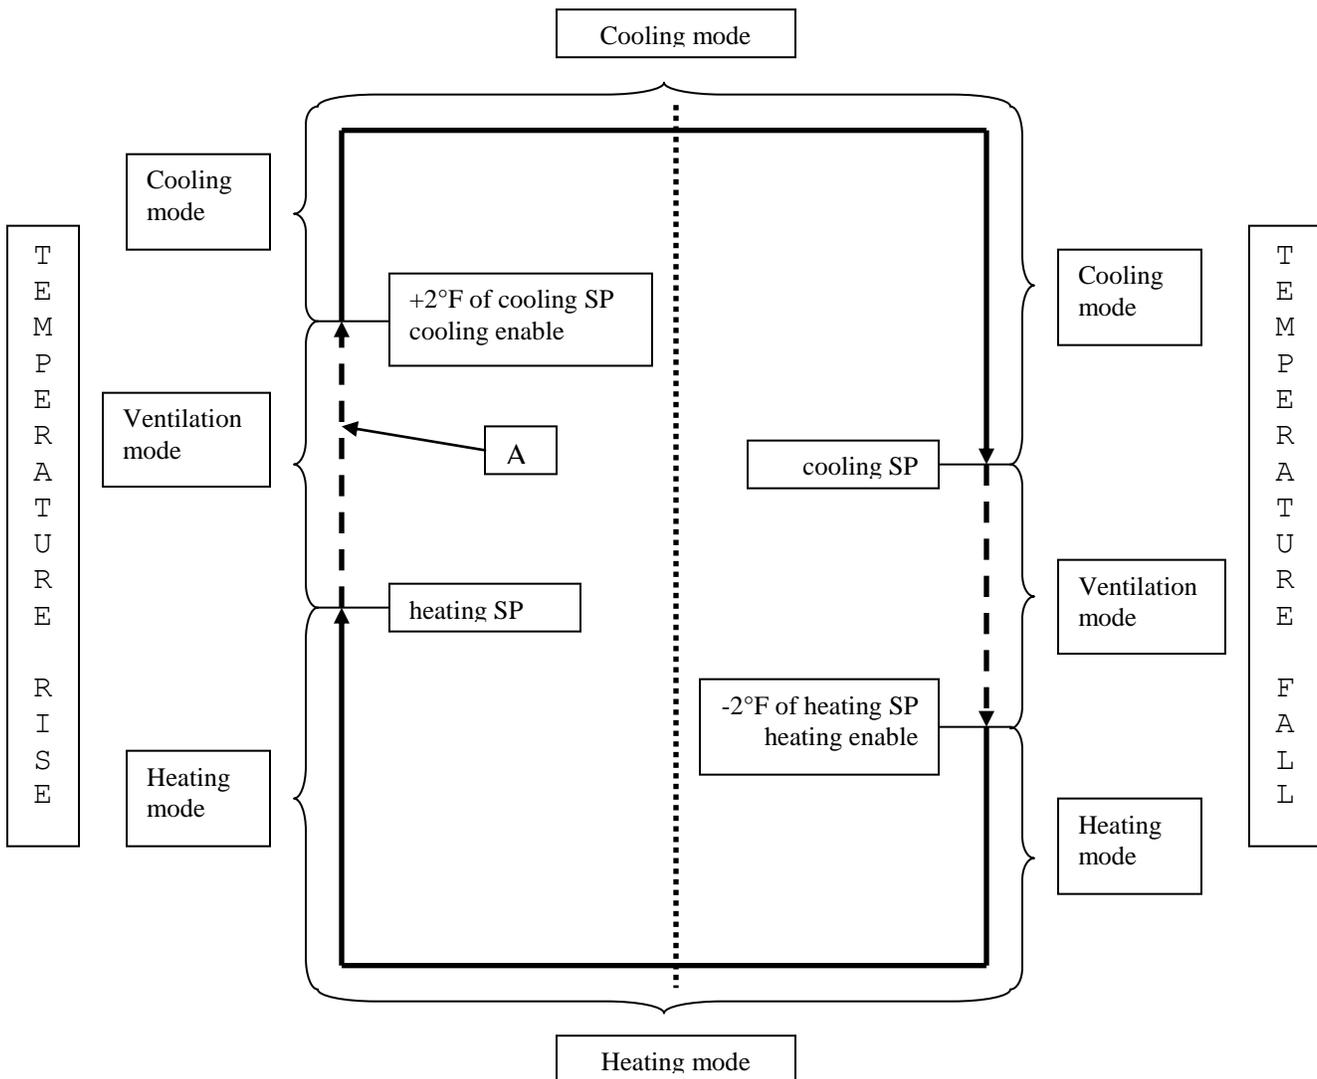

Figure 3
**Figure 3 Occupied Example** (except MDT and MDT-Expert): Start at point “A”. The unit is in the ventilation mode and the room or outside air temperature is rising. Follow the dashed line upward. If the room or outside air temperature rises to a temperature that is 2°F over the cooling setpoint, the cooling will be enabled, and the unit will be in the cooling mode. Follow the solid line clockwise. Once the room or outside air temperature has fallen to the cooling setpoint, the cooling mode will be disabled, and the unit will be in the ventilation mode. Follow the dashed line downward. If the room or outside air temperature falls to a temperature that is 2°F below the heating setpoint, the heating will be enabled, and the unit will be in the heating mode. Continue following the solid line in a clockwise direction to the heating setpoint. Once the room or outside air temperature rises to the heating setpoint, the heating mode will be disabled, and the unit will be in the ventilation mode.